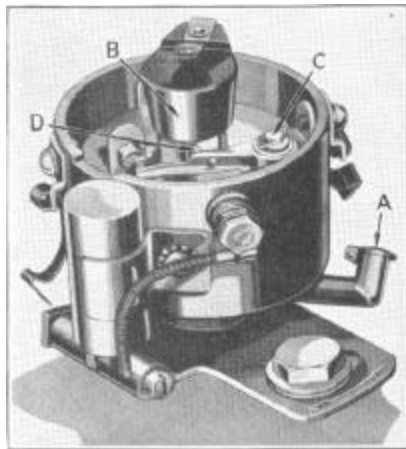

Figure 2
The oil cup (A), Figure 2, should be filled with engine oil every 1,000 miles. The distributor cap and rotor should be removed and a few drops of engine oil applied to wick (B) in the top of the shaft. Apply one drop of oil on the breaker arm pivot (C), and apply a light coating of vaseline on the cam block (D). Avoid over-oiling.